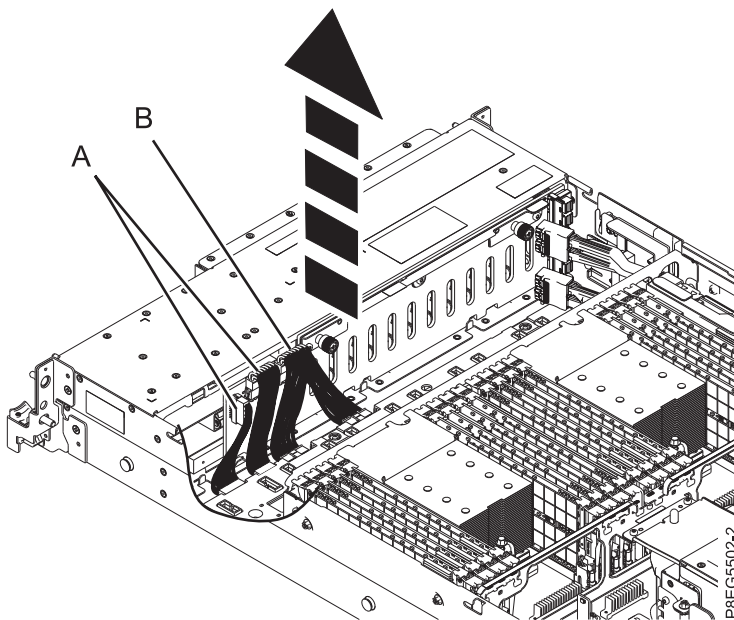

Figure 4. Removing the power, signal, and control panel cables
5. Label, disconnect, and remove the signal and control panel cables (A), and the power Y cable (B), from the disk drive backplane and the system backplane. See Figure 4.